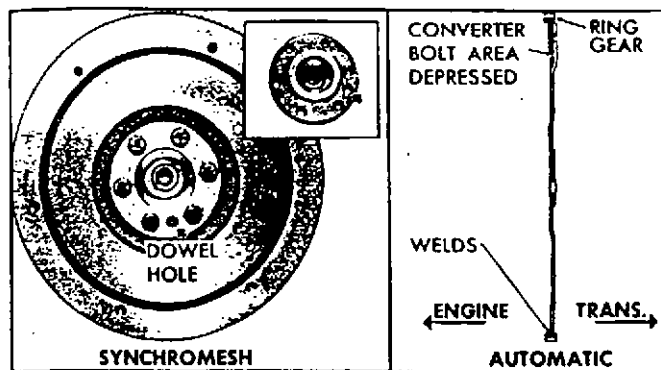

Fig. 21L—Flywheel Installation (Typical)
2. Install flywheel on crankshaft and position to align dowel hole of crankshaft flange and flywheel (fig. 21L).
NOTE: On Automatic Transmission equipped engines, the flywheel must be installed with the flange collar to transmission side (fig. 21L).